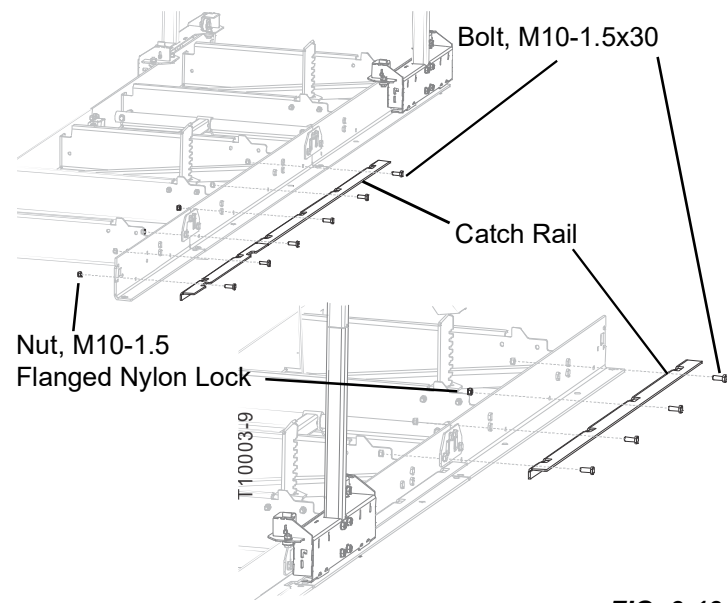

FIG. 3-13
- 8. With the sawhead at the head of the bed, (either end may be designated as the head) attach two lower segments of the catch rail. See FIG. 3-13.
- 9. Move the carriage toward the foot of the bed and install the last segment of the catch rail, using M10-1.5x30 bolts. See FIG. 3-13.